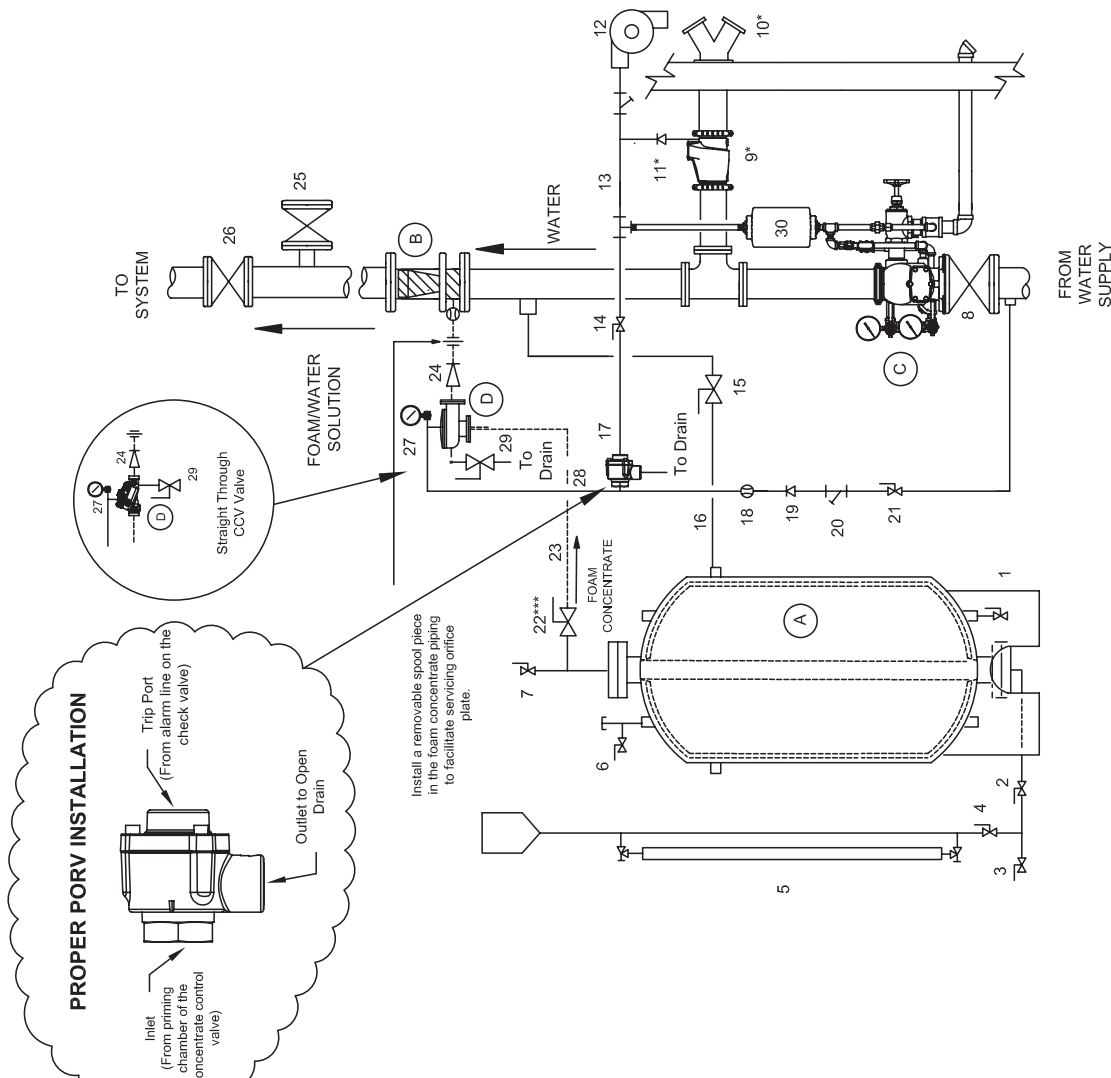

Figure 1
- A. Provide a minimum of 5 pipe diameters of straight pipe on the inlet and outlet of the concentrate controller (B) to minimize turbulence inside the concentrate controller. Exception, the outlet for the tank water supply control valve (15) may be connected nearer to the inlet of the concentrate controller and should not cause excessive turbulence. However, if the outlet to the foam solution test valve (25) is located closer than 5 pipe diameters there may be turbulence at high flow rates.
- B. The combined total equivalent length of pipe (pipe length, plus equivalent lengths for fittings and valves) including both the water supply inlet piping (16) and the foam concentrate discharge piping (23), should not exceed 50 equivalent feet (15.2 meters). This will allow both pipes to be the same size as the foam liquid inlet to the concentrate controller. If the total equivalent length must exceed 50 feet (15.2 meters), then refer to the Proportioning Device Design Data located in the Design Section of this data book for the method of calculating these pipe sizes.
- C. The CCV (D) and swing check valve (24) must be connected adjacent to the concentrate controller using pipe nipples as short as possible.
- D. The Alarm Check Valve must be installed using the variable pressure trim and retard chamber (30) to minimize false operation of the CCV (D). The releasing PORV (17) for the CCV (D) is activated by the operation of the alarm valve.
- E. Ball Valve (14) must be left in the open position, except when conducting alarm or flow test. Failure to close ball valve (14) before running an alarm or flow test will result in the unwanted discharge of foam concentrate. Once the test is completed, ball valve (14) must be returned to the open position, or the foam CCV (D) will not operate, and the foam concentrate will not flow to the concentrate controller. **WARNING!** (Turning off the alarm test shut-off valve during a fire may cause the concentrate control valve to close, stopping the flow of foam concentrate. The installing contractor should post a sign stating the same at alarm shut-off valve and/or install a monitor switch on the alarm shut-off valve.
- F. The suggested location for a water flow switch, should one be required, is between the outlet of the alarm check valve (C) and the inlet to the concentrate controller.
- G. Figure 1 is a general schematic of the required piping arrangement. Refer to the appropriate technical data page for specific information regarding the valve, tank, and related trim and devices.
- I. A strainer is not required in the foam concentrate discharge piping (23) of bladder tank systems per NFPA Standards.
- J. The foam deluge CCV (D) does not require any trim except for a 1/2" Priming line (28), 1/2" auxiliary drain valve (29) and gauge with 3 way valve (27). Plug all remaining valve trim outlets. Refer to the Equipment section of this data book under Valves, to find the correct trim kit part number for the corresponding size of foam concentrate control Halar® coated deluge valve (D) required.